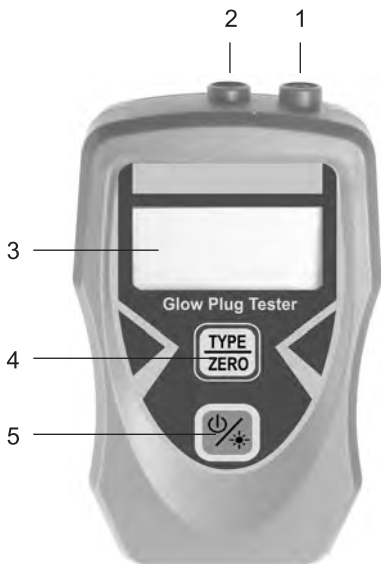

Figure 1
2. Refer to Figure 1, connect the black test lead to the left input terminal on the top of the tester, and the red test lead to the right input terminal.